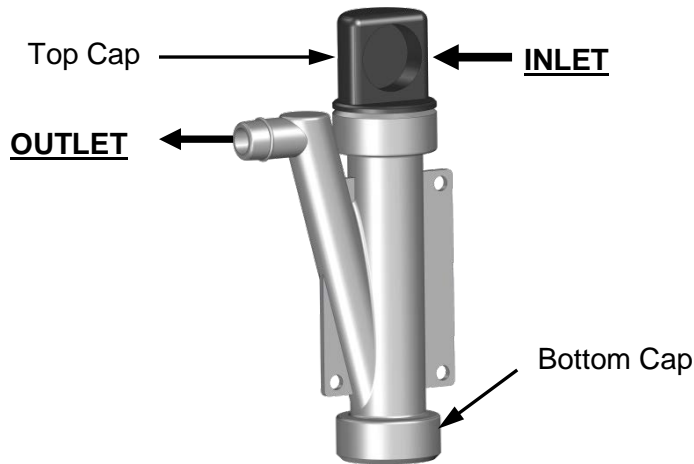

Figure 6-10b. New Condensate Trap P/N 99259
1. Disconnect the condensate trap by loosening and then removing connections on the inlet and outlet sides of the trap (see Figure 6-10b).